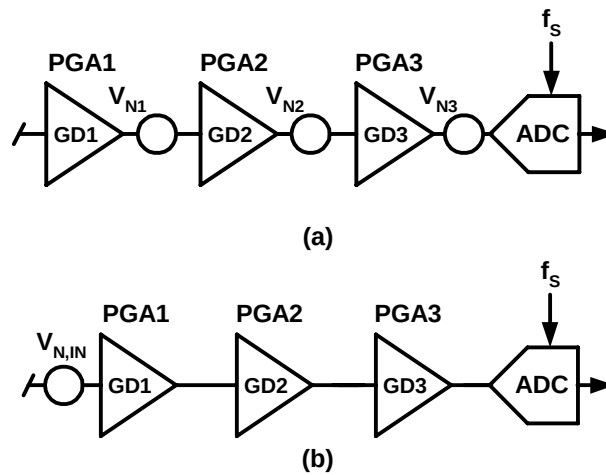

Figure 16-18 (a) Simple noise model for PGAs and ADC and (b) total input referred noise
- Figure independent from PGA1 gain and sampling frequency f_s . See model of Figure 16-18(a). See equation Eq. 21 to calculate equivalent input noise.
- Figure independent on PGA2 gain and sampling frequency f_s . See model of Figure 16-18(a). See equation Eq. 21 to calculate equivalent input noise.
- Figure independent on PGA3 gain and sampling frequency f_s . See model of Figure 16-18(a) and equation Eq. 21 to calculate equivalent input noise.
The simple noise model of Figure 16-18(a) is used to estimate the equivalent input referred rms noise $V_{N,IN}$ of the acquisition chain in the model of Figure 16-18(b). This is given by the relationship:
Note: see noise model of Figure 16-18 and equation Eq. 21.